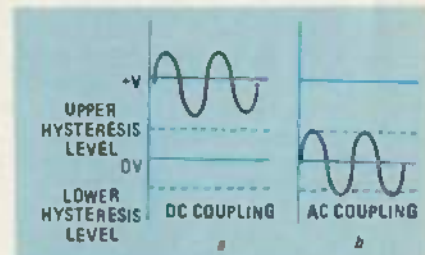

FIG. 9—A DC-COUPLED SIGNAL, as shown at a, can shift a signal completely out of the hysteresis range. AC-coupling, as shown at b, brings the signal in range.
**Input coupling** may be either DC or AC. As shown in Fig. 9-a, an AC signal with a large DC component can shift the level of the signal outside the usable range of hysteresis. By coupling the input signal through a capacitor, the DC is blocked, and the signal falls within the usable range of hysteresis.